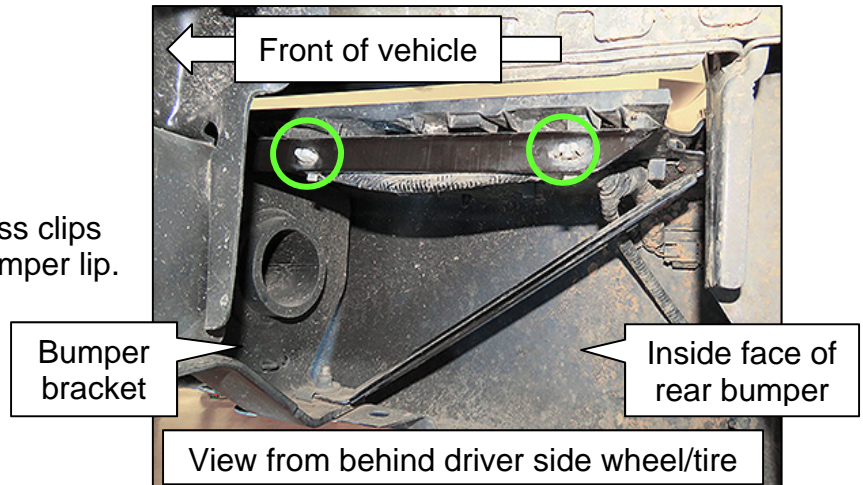

Figure 1
1. Unclip the two (2) white harness clips circled in Figure 1 from the bumper lip.